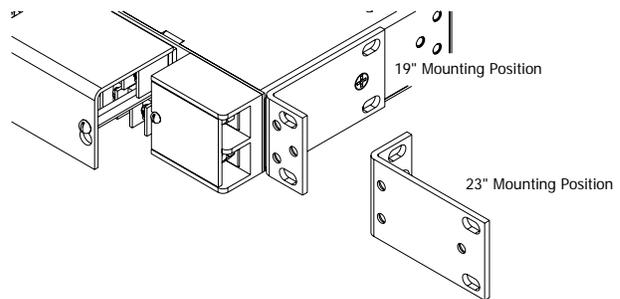

Figure 4.2.1
1.2. Input wiring is connected to a high current, 2-hole lug input block located on the front of the panel. (See Figure 4.2.1) Each group of fuses or bus has its own completely isolated inputs, allowing the distribution of two battery voltages through the same panel.
4.2. Once the panel is unpacked, verify that there are three mounting brackets. The bracket with the vertical slot is used on both 1” and 1-3/4” spacing. There will be two brackets with horizontal slots, these will fit 1” or 1-3/4” spacing. All three brackets are universal for 19” and 23” rack mount spacing (see figure 4.2.1) and can be mounted so the panel can be installed for a flush mounting or 5” offset. Adjust the position and orientation of the correct mounting brackets on the fuse panel, such that it will fit the rack you wish to mount the panel in.